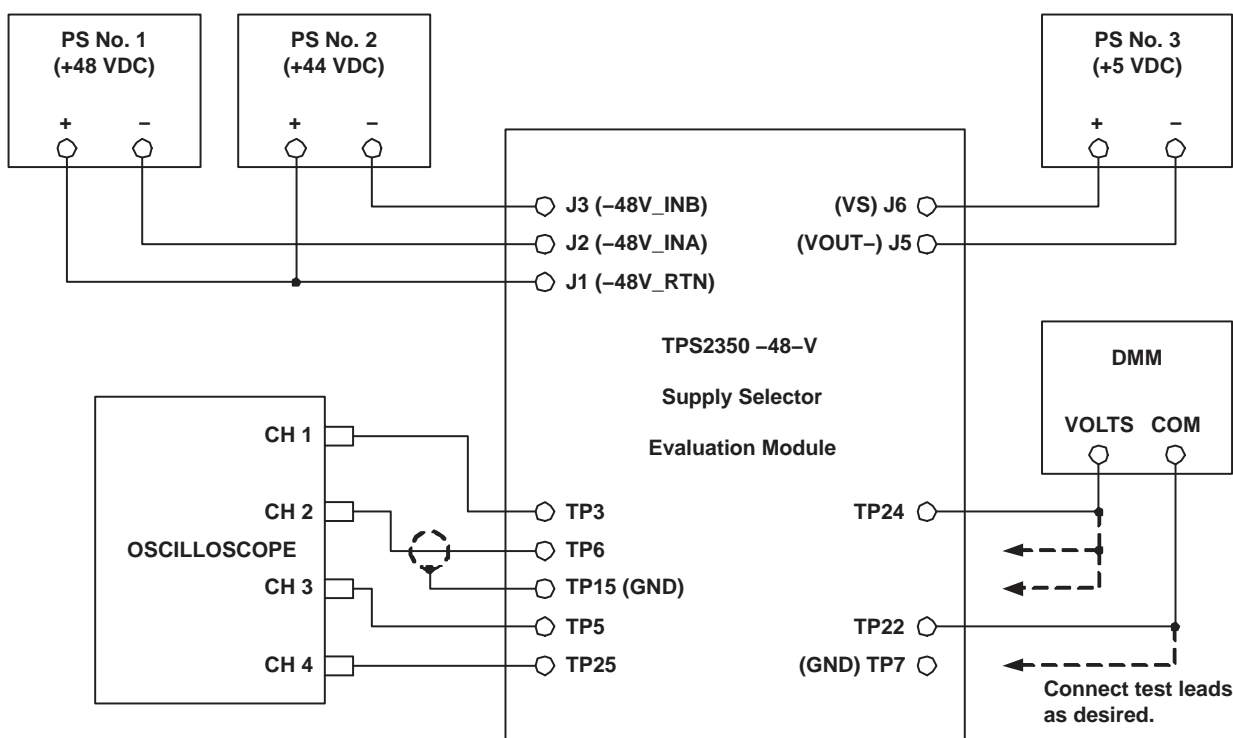

Figure 4. TPS2350 -48-V Supply Selector EVM Equipment Setup
Connect the EVM and test equipment as shown in Figure 4.
Supply connections to the EVM should be made to the banana jacks as shown in Figure 4. The two backplane, 48-V supplies (PS No. 1 and PS No. 2 in Figure 4) connect between J1 and J2 and J1 and J3, respectively. The polarity of the circuit is such that the HI or (+) outputs of the supplies connect to J1,  $-48V\_RTN$ . The LO or (-) jacks connect to J2 ( $-48V\_INA$ ) and J3 ( $-48V\_INB$ ). PCB header J6 (VS) is used to connect an external pull-up source when using the MOD\_EN output of the EVM. This supply is referenced to the VOUT- node at J5.
The EVM can be used to get an illustration of the relationship between current limit, inrush slew rate, load values, and the circuit's fault timing requirements. With DIP switch SW1-1 only closed, the fastest of the preset slew rates is selected, and only the hard-wired timing capacitor C6 is connected to the TPS2350 controller. However, this is sufficient to allow the bulk capacitor C8 to fully charge, from 0 V, across the full range of input supply voltages, down to -80 V. This can be observed by connecting input power as shown in Figure 4, displaying the VOUT- node on an oscilloscope, and enabling the device.